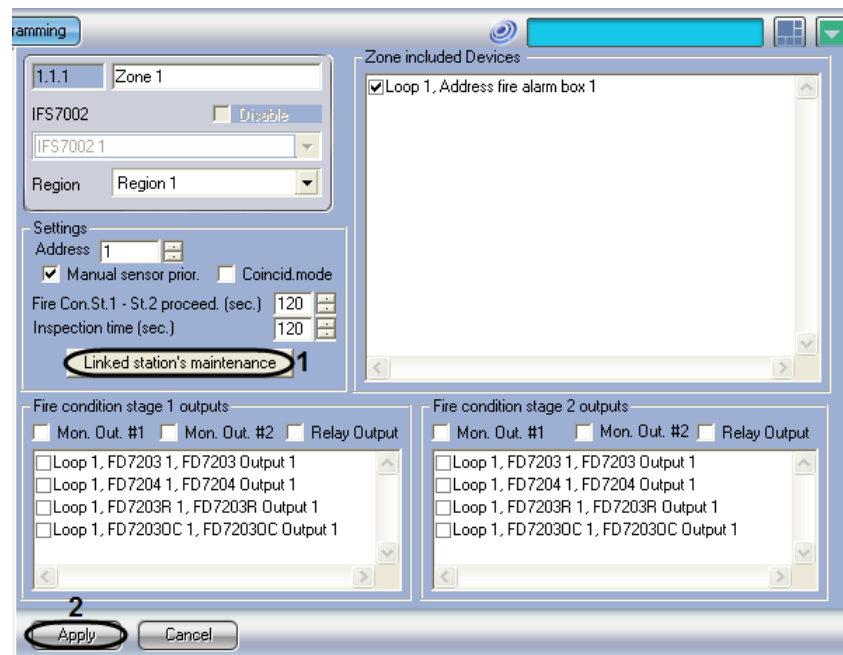

Fig. 3.7—3 Configuring interaction of the network stations
1. Go to the settings panel of the “Zone” object (Fig. 3.7—3).
2. Click the “Linked station's maintenance” button (see Fig. 3.7—3, 1).